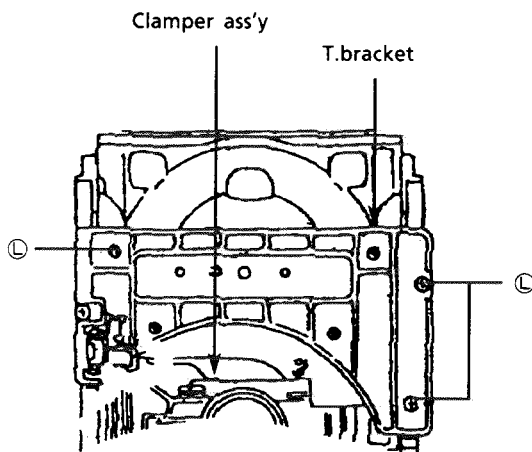

Fig.21
4. Remove 3 screws ① securing T.Bracket.(See Fig. 21.)